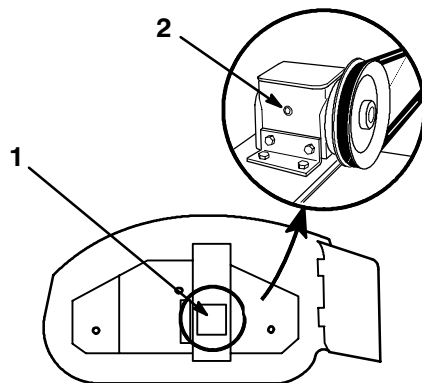

Figure 20
- Remove filler plug and check fluid level. Fluid should be at lower level of filler plug hole (Fig. 20).